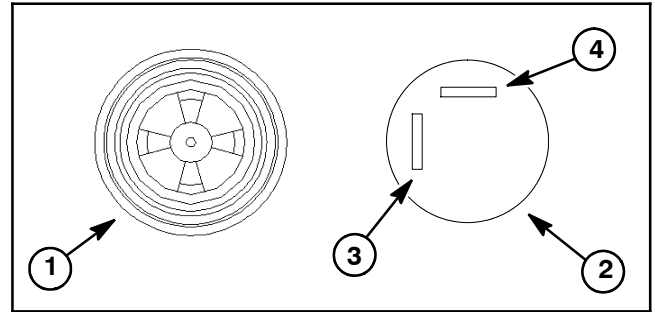

Figure 68
4. Correctly connect 12VDC source to the alarm terminals (Fig. 68).